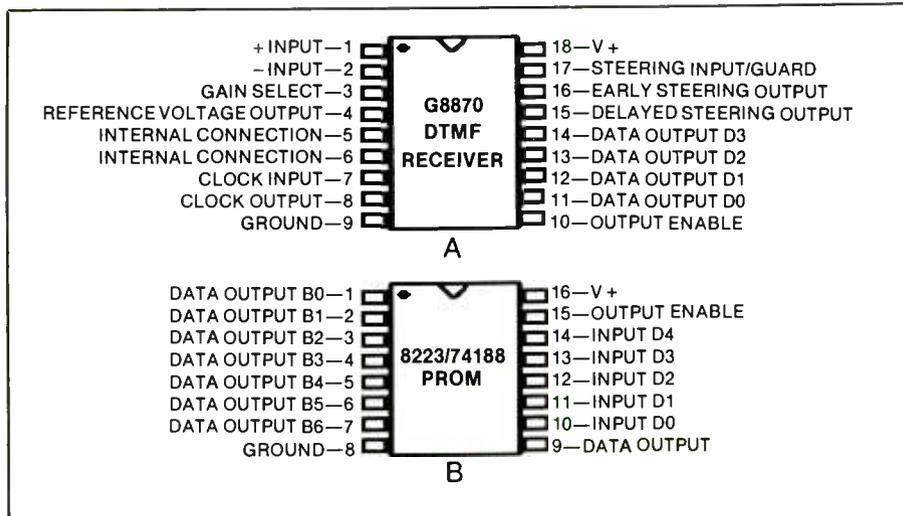

Fig. 4. Package configurations and pinouts for (A) G8870 DTMF Receiver and (B) 8223 or 74188 PROM.
The second task of IC2 is to correct a problem associated with the G8870 chip used for IC1. If you compare the pinouts of the G8870 given in Fig. 4(A) with those of the 74188 or 8223 used for IC2 in Fig. 4(B), you will see that the Data Output lines of the former are in reverse of those of the lat-